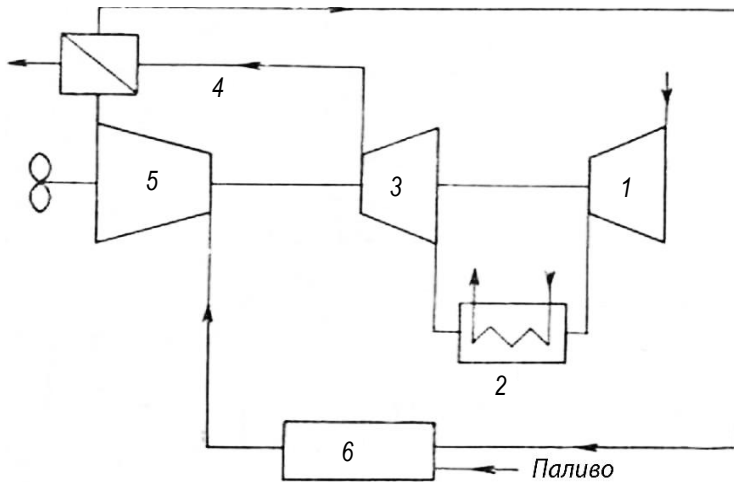

Fig. 5. Diagram of a gas turbine plant with regeneration and two-stage air compression
In a marine gas turbine plant with a combustion chamber (Fig. 5), atmospheric air is sucked in, compressed by a low-pressure compressor (1) located on the same shaft as the gas turbine (5), and sent to a cooler (2) cooled by seawater. The cooled air enters the high-pressure compressor (3), where it is compressed again to a higher pressure, after which it is fed into the regenerator (4), where it is heated by exhaust gases, and then enters the combustion chamber (6), where the fuel supplied is